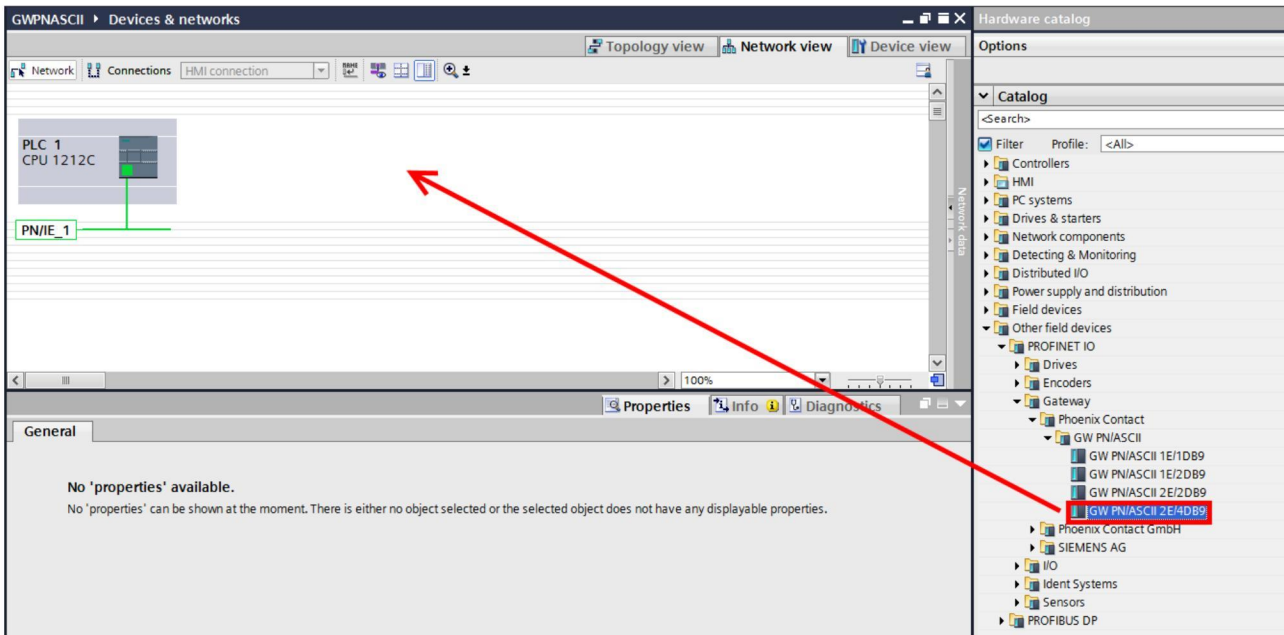

Figure 9 Gateway selection
- Once the GSDML files are installed and the catalog is updated, navigate to the “Network View” of TIA Portal. From the “Hardware catalog” pane, click “Other field devices/PROFINET IO/Gateway/Phoenix Contact/GW PN/ASCII” to display the available gateways. Click the device and drag it into the “Network view” window. For example, Figure 9 shows the selection of a gateway with one Ethernet port and two D-SUB 9 serial ports (GW PN/ASCII 2E/4DB9).